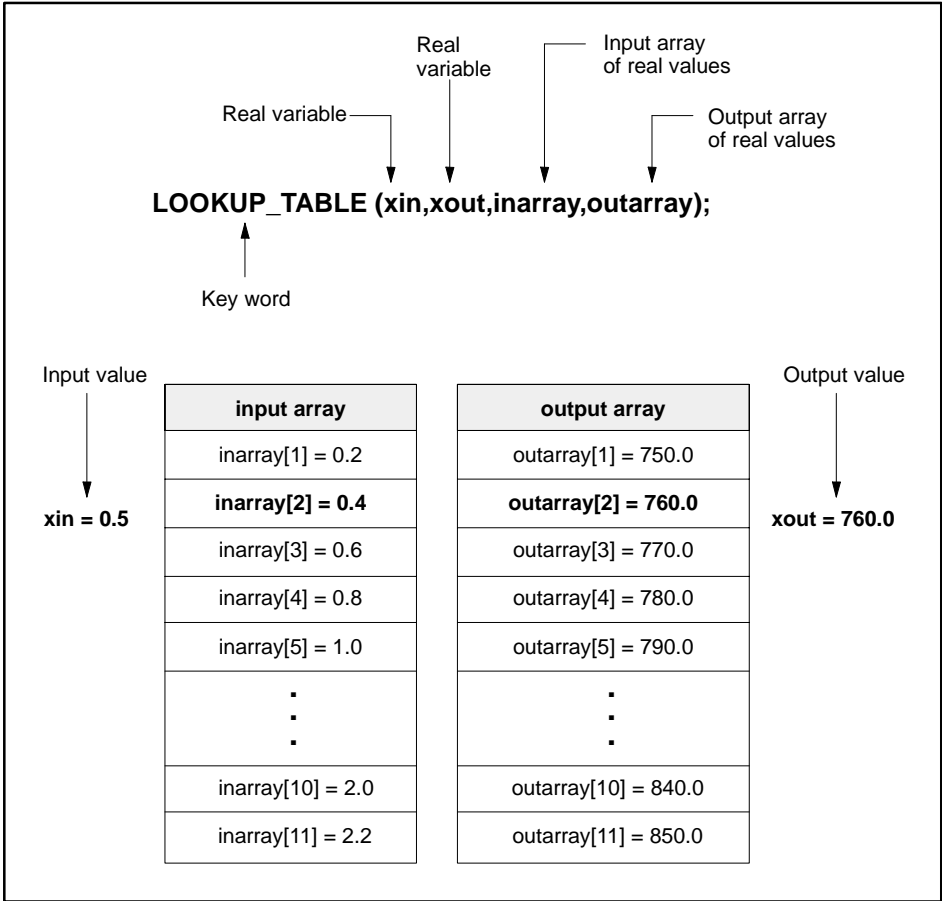

Figure 11-32 LOOKUP_TABLE Procedure
- The output variable is a real variable that stores the result of the LOOKUP_TABLE procedure. See the example in Figure 11-32.